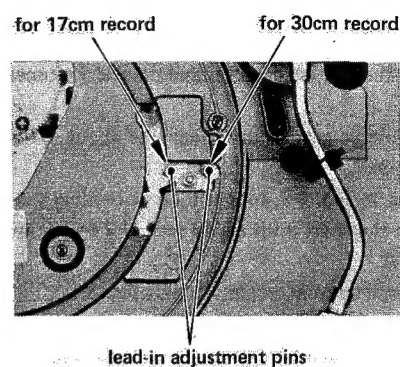

Fig. 4-6
2. If the tonearm is not automatically brought to the lead-in groove and lowered to begin play (for either 17 cm or 30 cm record size selection), turn the appropriate lead-in adjustment pin until proper operation is obtained (refer to Fig. 4-6).